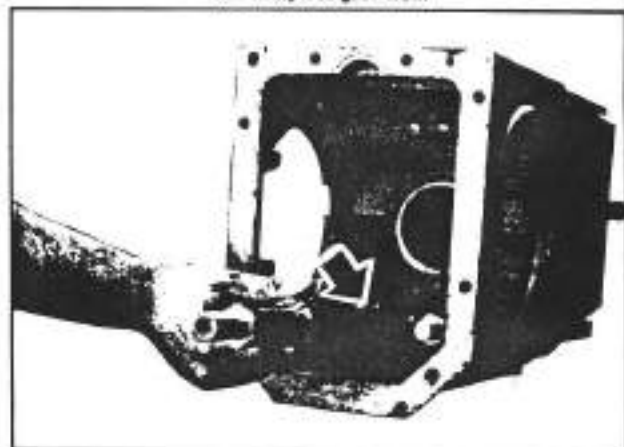
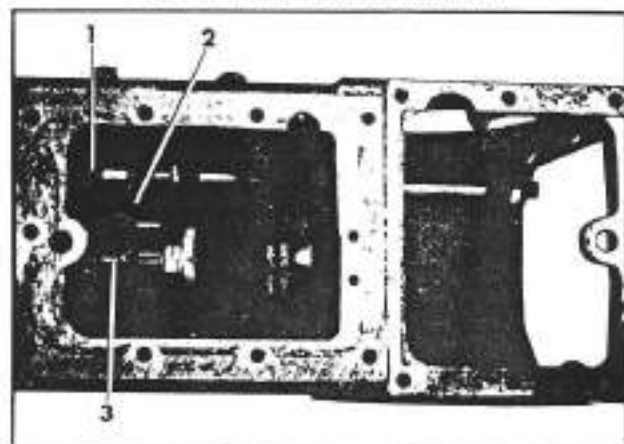
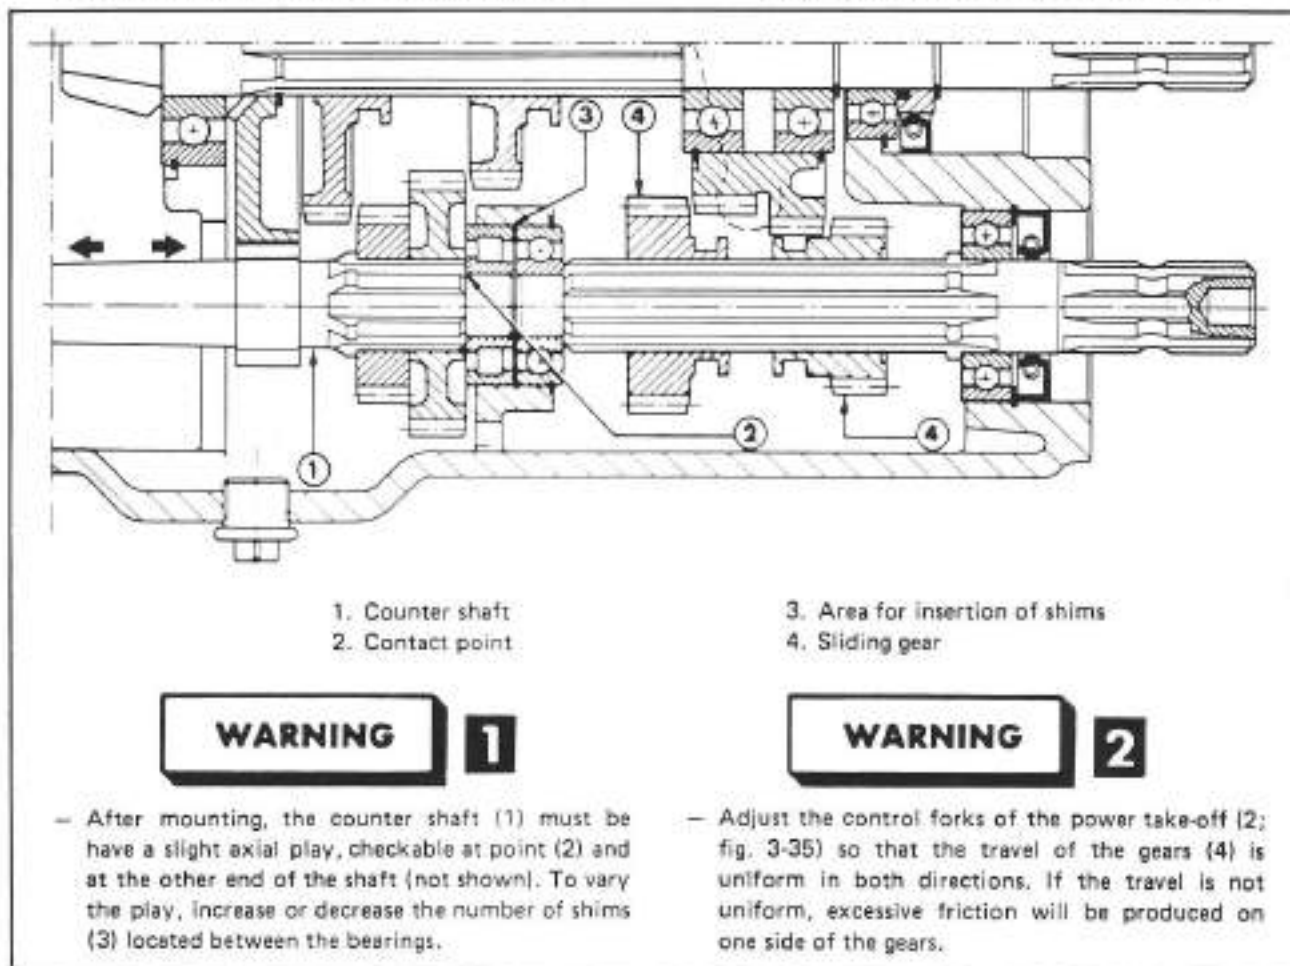

Fig. 3-34. Removal of the counter shaft
Fig. 3-35. Removal of the power take-off control rod forks
Fig. 3-38. Adjustment of the counter shaft and the control forks of the power take-off
- k. Remove the counter shaft (see figure 3-34).
- l. Unscrew the nuts (1; fig. 3-35) and remove the forks (2; fig. 3-35) of the power take-off rod on each side of the relative spacer (3; fig. 3-35).
- The counter shaft (see figure 3-34), must have a slight amount of play as indicated in figure 3-38. If such play cannot be obtained normally, it will be necessary to vary the number and/or thickness of the shims between the ball bearing and the roller bearing. (WARNING 1).
- Adjust the control forks (2; fig. 3-35) of the power take-off as indicated in figure 3-38. (WARNING 2)